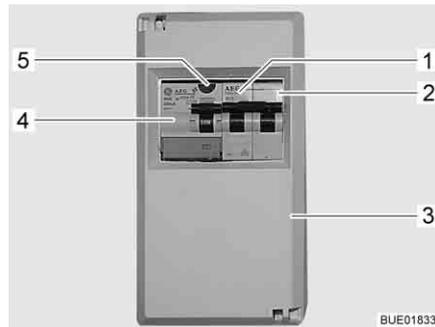

Fig. 143 230 V fuse box with safety cut-out and FI-switch
- Switch off the safety cut-out (Fig. 143,1 and 2) in the fuse box (Fig. 143,3).
- When the vehicle is connected to the 230 V supply, press the test button (Fig. 143,5) of the fault current protection switch (FI-switch) (Fig. 143,4) in the fuse box (Fig. 143,3). The fault current protection switch must trip.
- Switch off the safety cut-outs (Fig. 143,1 and 2) in the fuse box (Fig. 143,3).